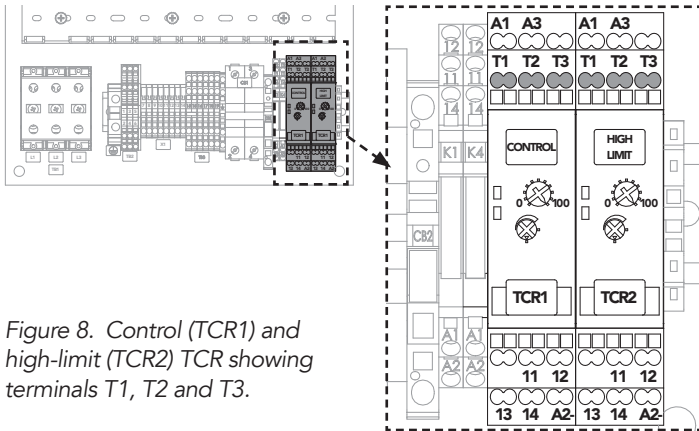

Figure 8. Control (TCR1) and high-limit (TCR2) TCR showing terminals T1, T2 and T3.
3. Using the ohmmeter, measure the resistance between TCR terminals T1 and T2 (See Fig. 8):